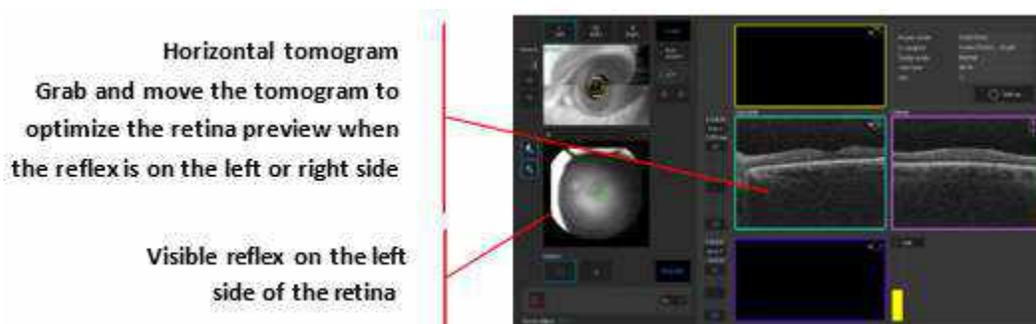

Figure 76.
- When the reflex is on the left or right side of the retina preview, as shown in Figure 76, grab and move the horizontal tomogram so that the fundus image is centered with no crescent artifacts (reflex).